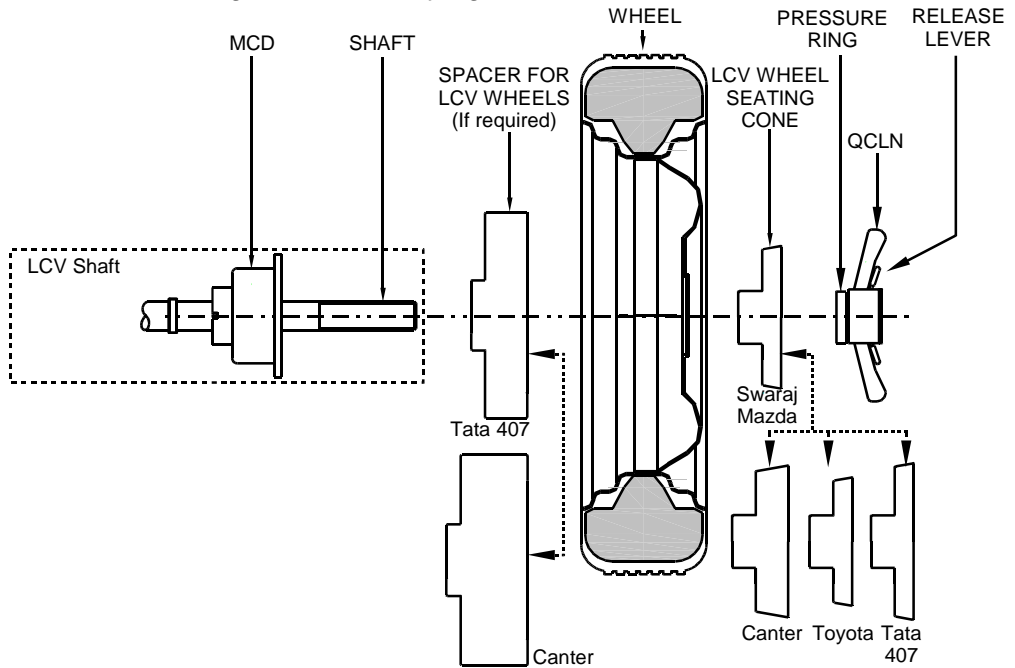

Fig. 15
- Mount the Plastic spacer onto the shaft butting its solid face against the MCD face as shown in Fig.15.